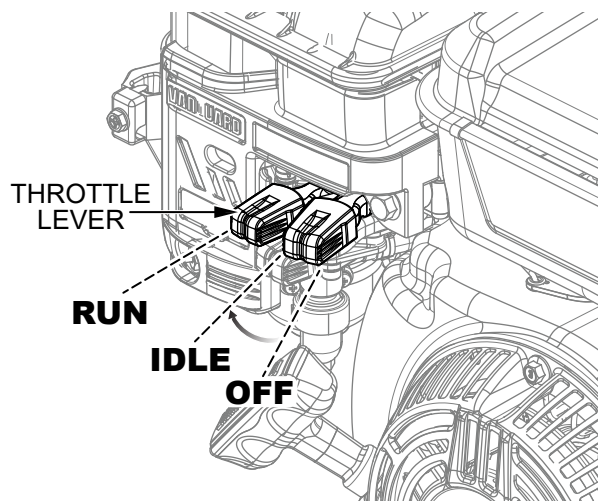

Figure 8. Throttle Lever (Idle)
1. Move the **engine throttle lever** (Figure 8) to the **IDLE** position (away from the **OFF** position, about 1/3 of the way toward the **RUN** position).